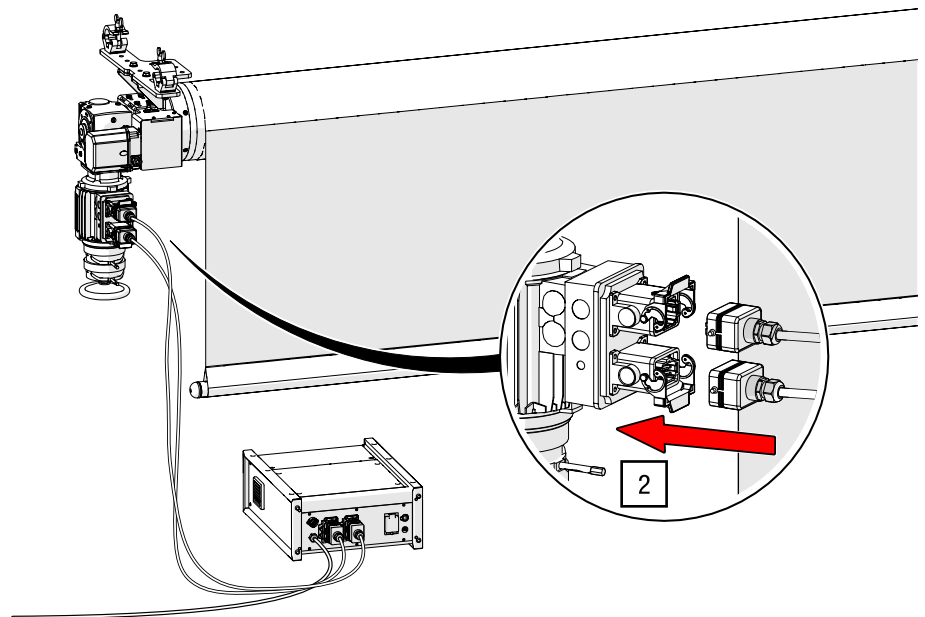

Fig. 28: Connecting the control and motor supply cables to the roller screen
2. Connect the control cable previously connected to the control unit, together with the motor supply cable, to the roller screen via connectors 1XXM1 and 1XSM2 (see *Chapter 5.2.2 Electrical connection of the G-FRAME control unit* [► p. 51]; see Fig. 28).